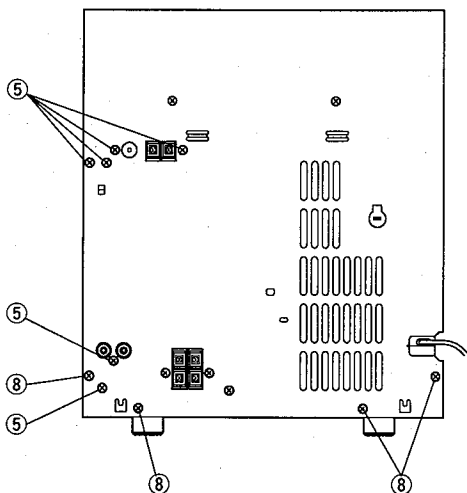
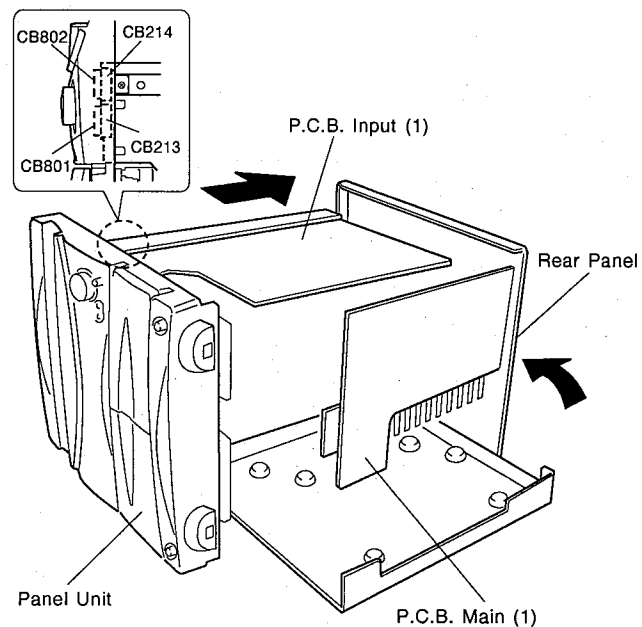

Fig. 4
Fig. 7
- Remove 6 screws (⑤) in Fig. 4.
- Remove 4 screws (⑧) from the Rear Panel in Fig. 4.
- Lift the Rear Panel (with the Main P.C.B. attached) and turn it as shown in Fig. 7, and then install the Panel Unit (with the Input P.C.B. / Tuner P.C.B. attached) to the Rear Panel. (Fix it with 6 screws (⑤) in Fig. 4.)